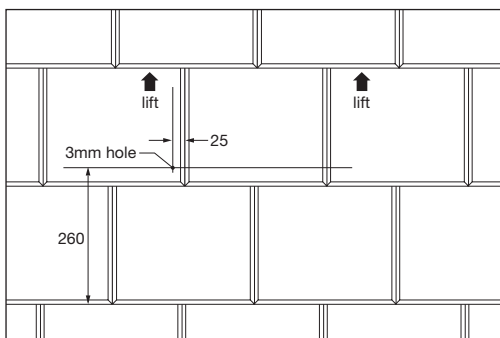

Fig 29 – Position new slate
- Fix replacement slate through slate immediately to left of new slate. To position fixing, measure 280mm up from tails of slates on course below, and mark a light parallel line on adjacent slate. Then mark a vertical line on same slate 25mm in from right hand edge of slate. At intersection of two lines on adjacent slate, carefully drill a 3mm-diameter hole through the two thicknesses of slate (Fig 29).